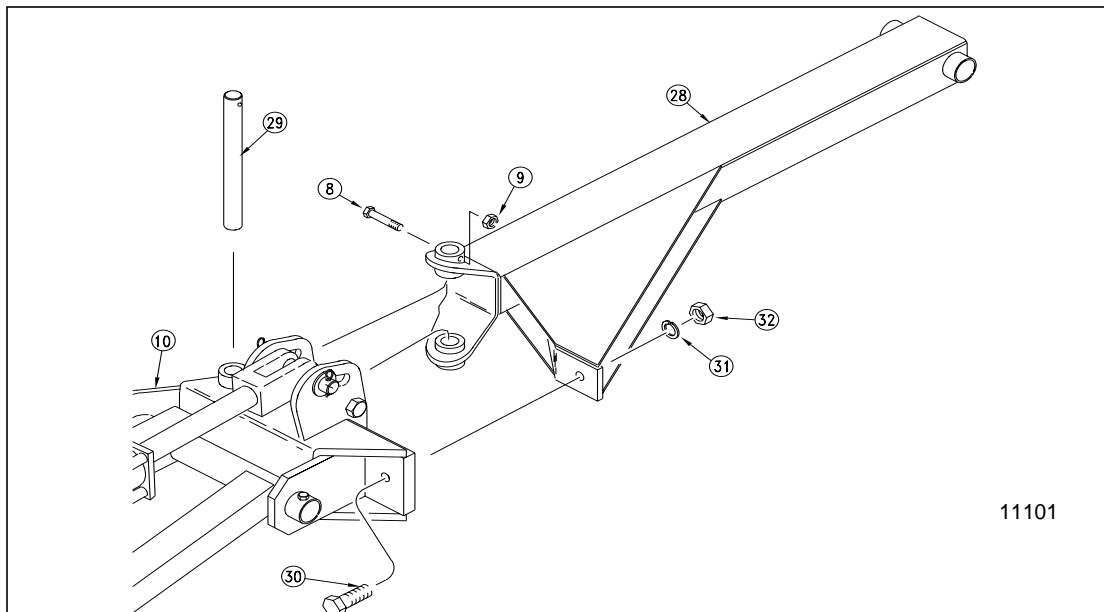

Fig. 3
5. Referring to Fig. 3, attach the 2nd section maker weldment (# 28) to the breakaway hinge (# 10) by passing the pivot pin (# 29) through the pivot hole in the hinge and weldment. Retain the pivot pin (# 29) with the bolt and lock nut (# 8 & 9). Complete this joint by passing the special GRADE 2 breakaway bolt (# 30) through the holes in the hinge and 2nd section. Install the lock washer (# 31) and nut (# 32) on this bolt.